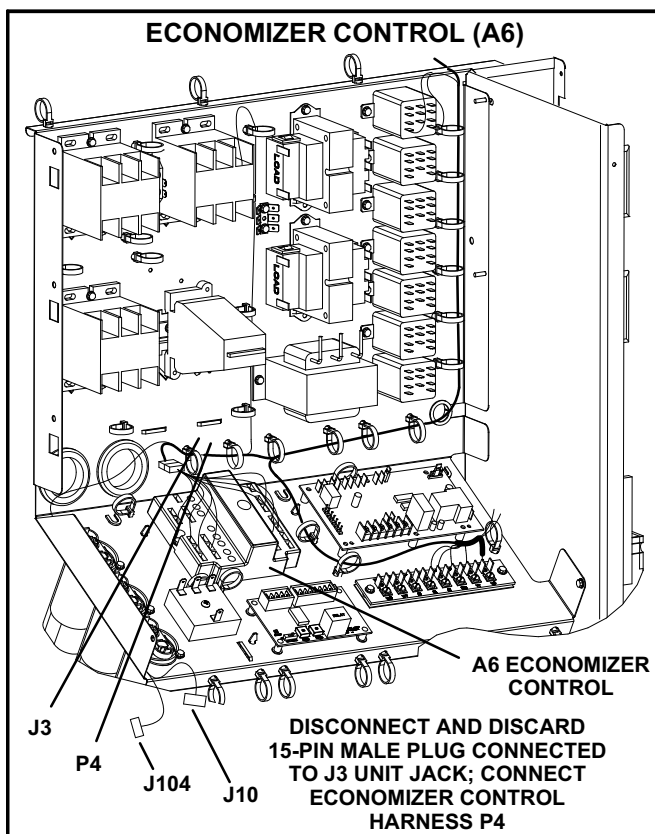

FIGURE 18
- 5- Route harness as shown in figure 18 and use push-in wire tie to secure harness to side wall.